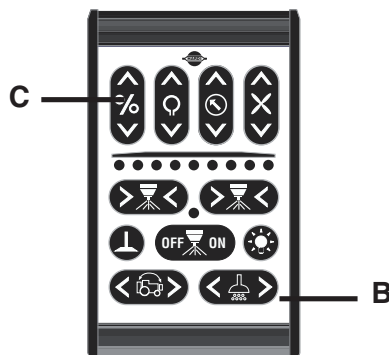

Fig 37
- 3 Press Foam Marker arrow key (B Fig 37) briefly to turn on, then press opposite arrow to change sides if required.
- 4 Within 10 seconds of activating either side, foam quantity can be changed with the % key (C Fig 37).